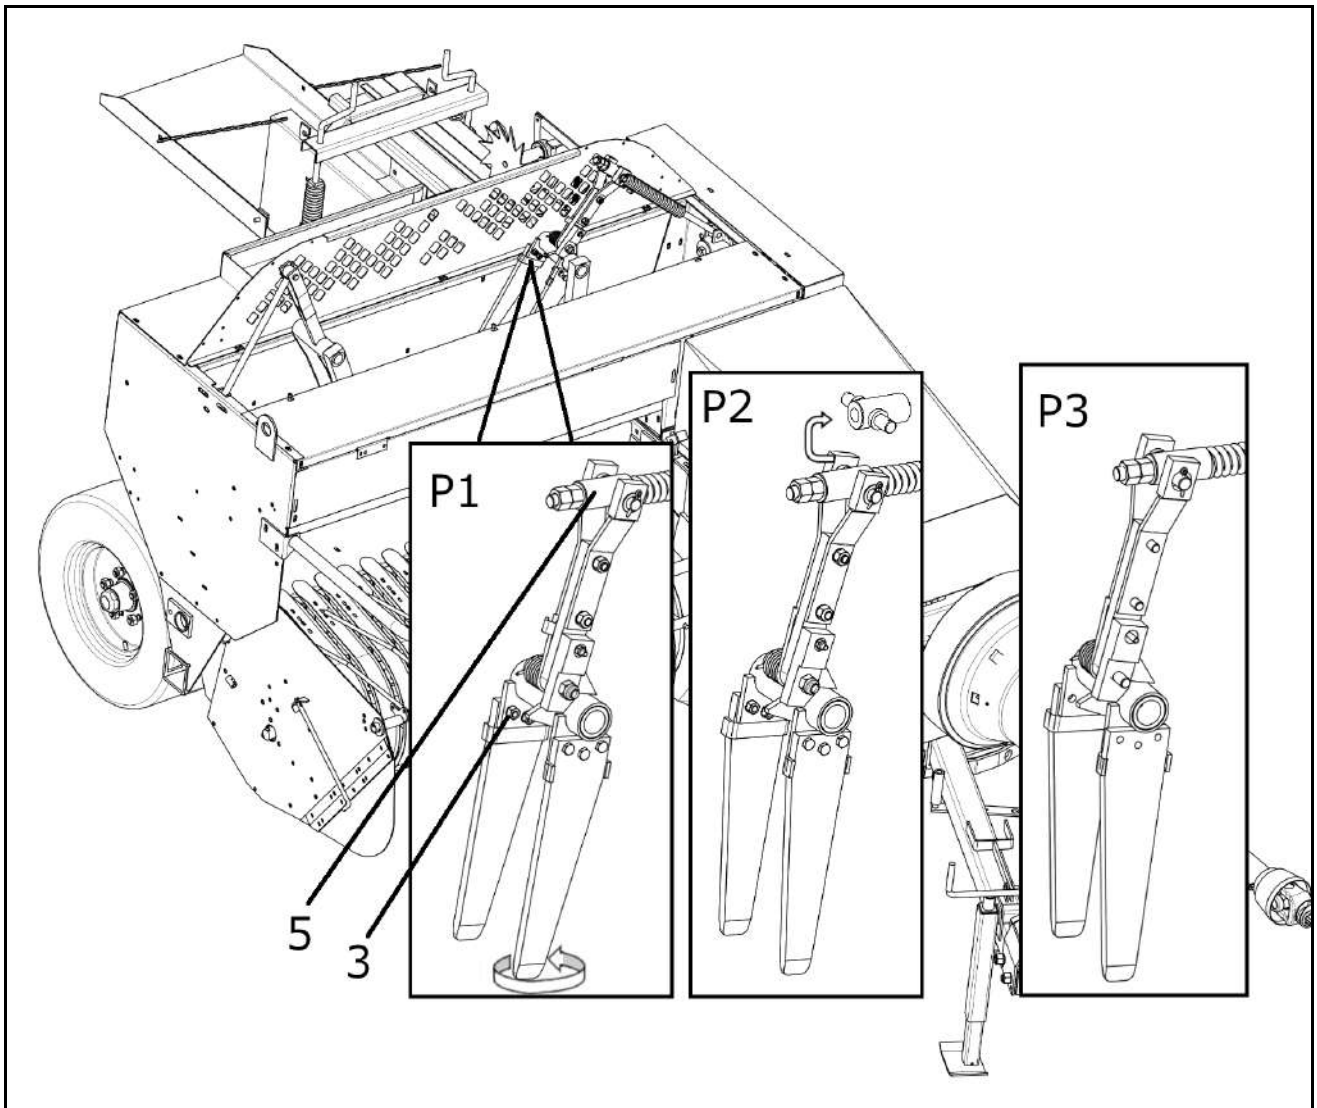
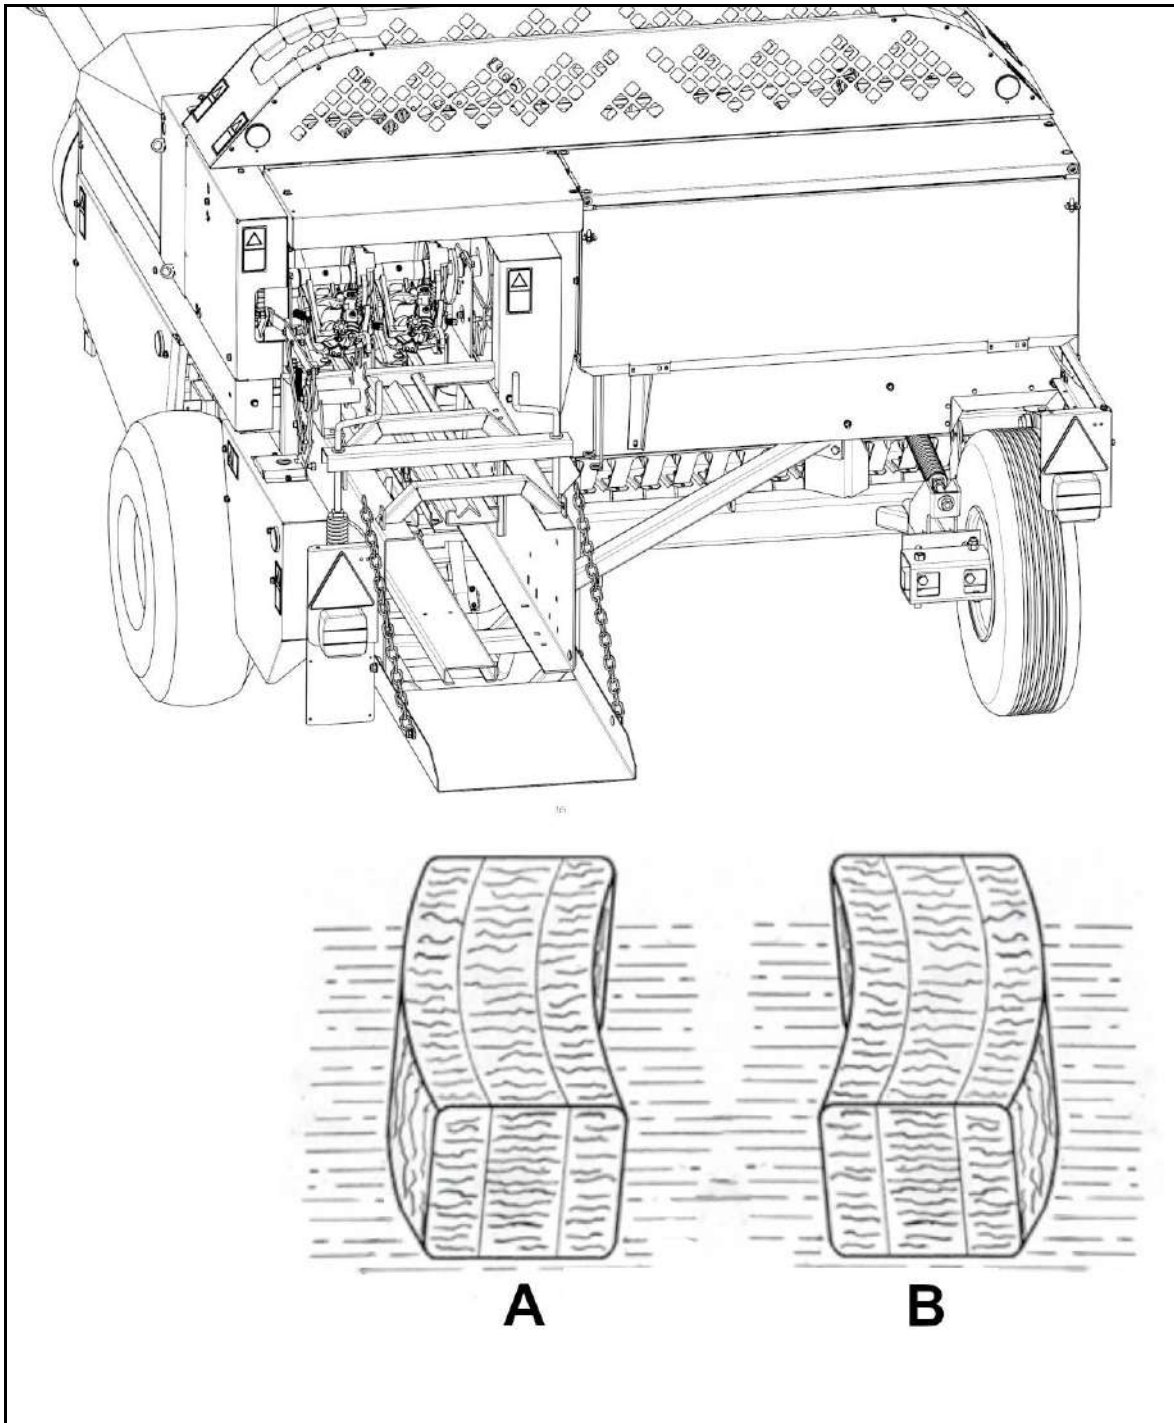

Fig. 7.22
Fig. 7.23
To adjust the forks, look at Fig. 7.22 and proceed as follows:
- A) If the bales come out of the bale chamber looking like that in Fig. 7.23A (i.e. the bales are longer/fuller on the outer side of the bale chamber) the teeth of the first fork must be assembled as shown in Fig. 7.22, ref. P1, with the slanted side of the fork facing the bale chamber. It is rotated by removing the screws 3 (Fig. 7.22). This adjustment is necessary mainly when baling short product.
- B) If the bales come out of the bale chamber looking like that in Fig. 7.23B (i.e. the bales are longer on the inner side/knife side of the bale chamber), the teeth of the first fork must be assembled as shown in Fig. 7.22, ref. P2, with the side perpendicular to the attachment bracket facing the bale chamber, by means of the three fastening screws 3 (Fig. 7.22). If this is not enough to solve the
problem, assemble the head-cross support 5 (Fig. 7.22) positioned at 180° (ref. P3, Fig. 7.23). This adjustment is necessary mainly when baling long product.